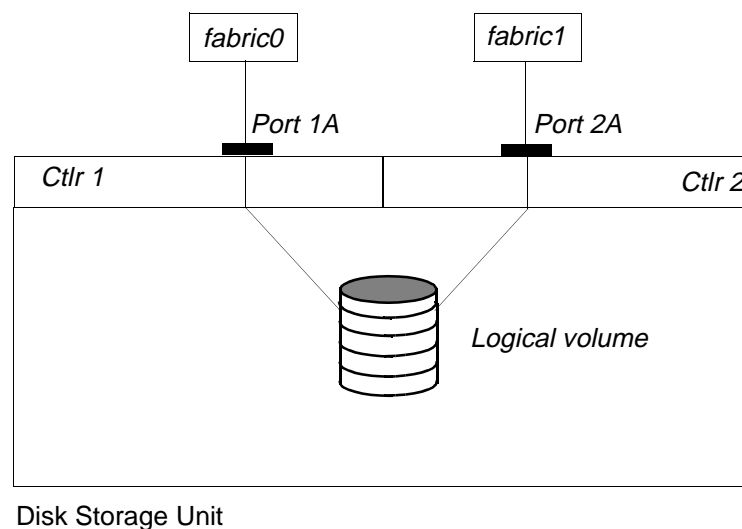

Figure 6-1.
- A single logical volume can be connected to more than one port. E.g., in Figure 6-1, the disk resource is connected to Port 1A and Port 2A, and has a path through both fabrics (*fabric0* or *fabric1*).